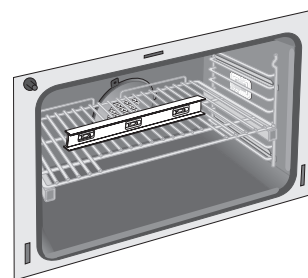

Figure 8
- 3. Check if the range is level by installing an oven rack in the center of the oven and placing a level on the rack (Figure 8).